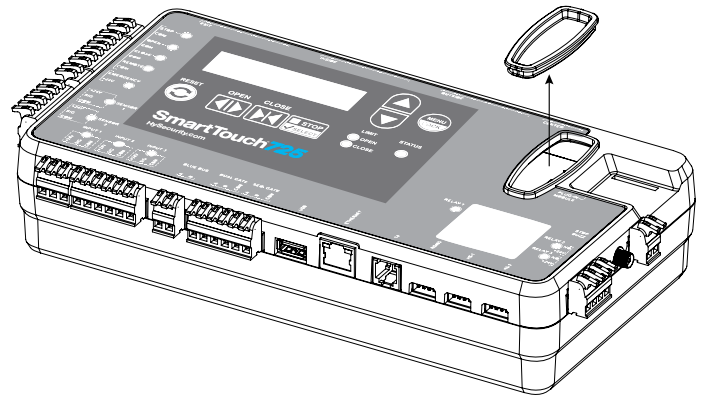

Figure 51. Remove OXI Receiver Cover
2. Remove the rubber plug or OXI receiver from OXI receiver slot (Figure 51).